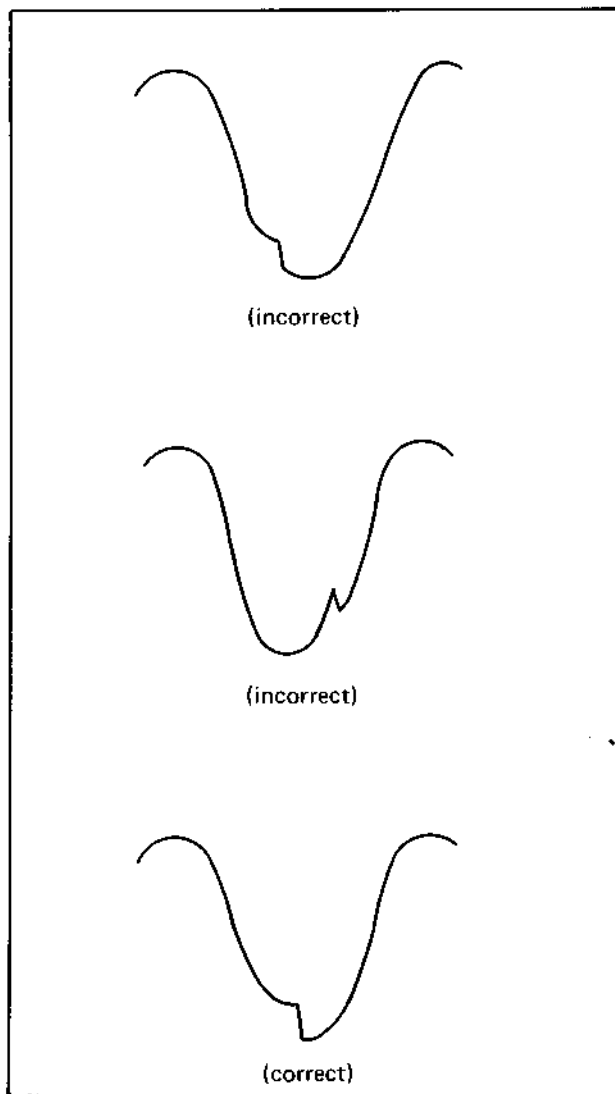

Fig. 5-35
2. Adjust the L211 to maximum seeing TP-212 of 7.8 kHz component as shown in Fig. 5-35.
3. Adjust the R342 to become 6.5 \pm 0.2 Vp-p of TP-212 waveform level as shown in Fig. 5-35.